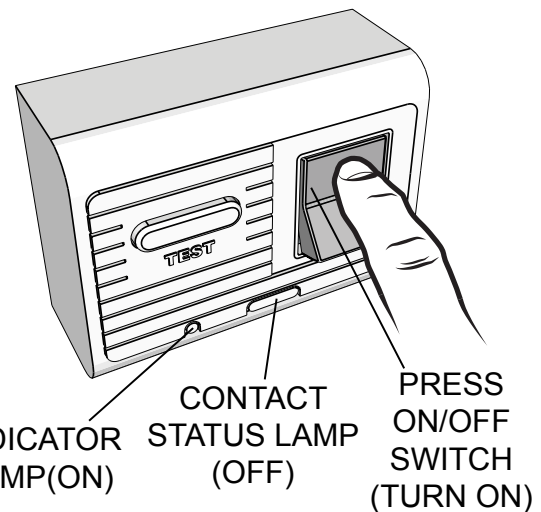

Figure 24. Resetting 230 VAC GFCI Breaker
3. Press the ON/OFF switch back to the ON position (Figure 24). The contact status lamp will turn off and the indicator lamp turns on.